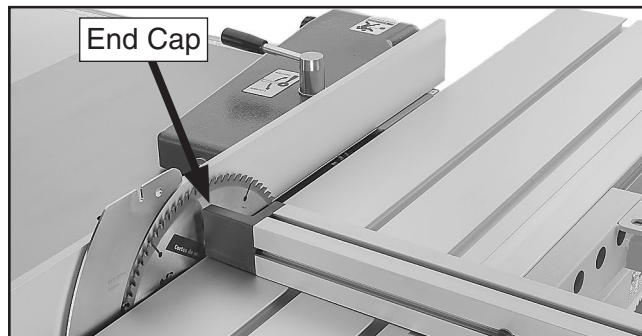

Figure 49. End cap positioned near blade.
44. Re-install end cap, then position crosscut fence so end cap is close to, but not touching main blade (see **Figure 49**).
45. Align pivot bolt with pivot hole (see **Figure 49**), then fully tighten pivot bolt.